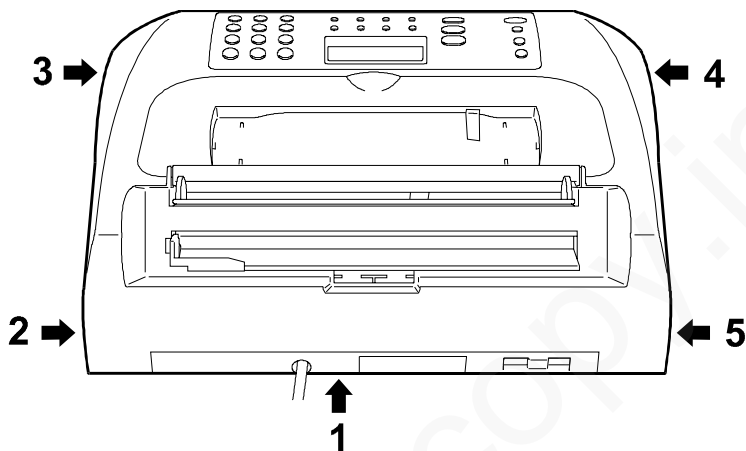

Fig. 7-9
- 2) Release the casing from the base, flexing outward and lifting upward the points indicated in order in the figure (Fig. 7-9):